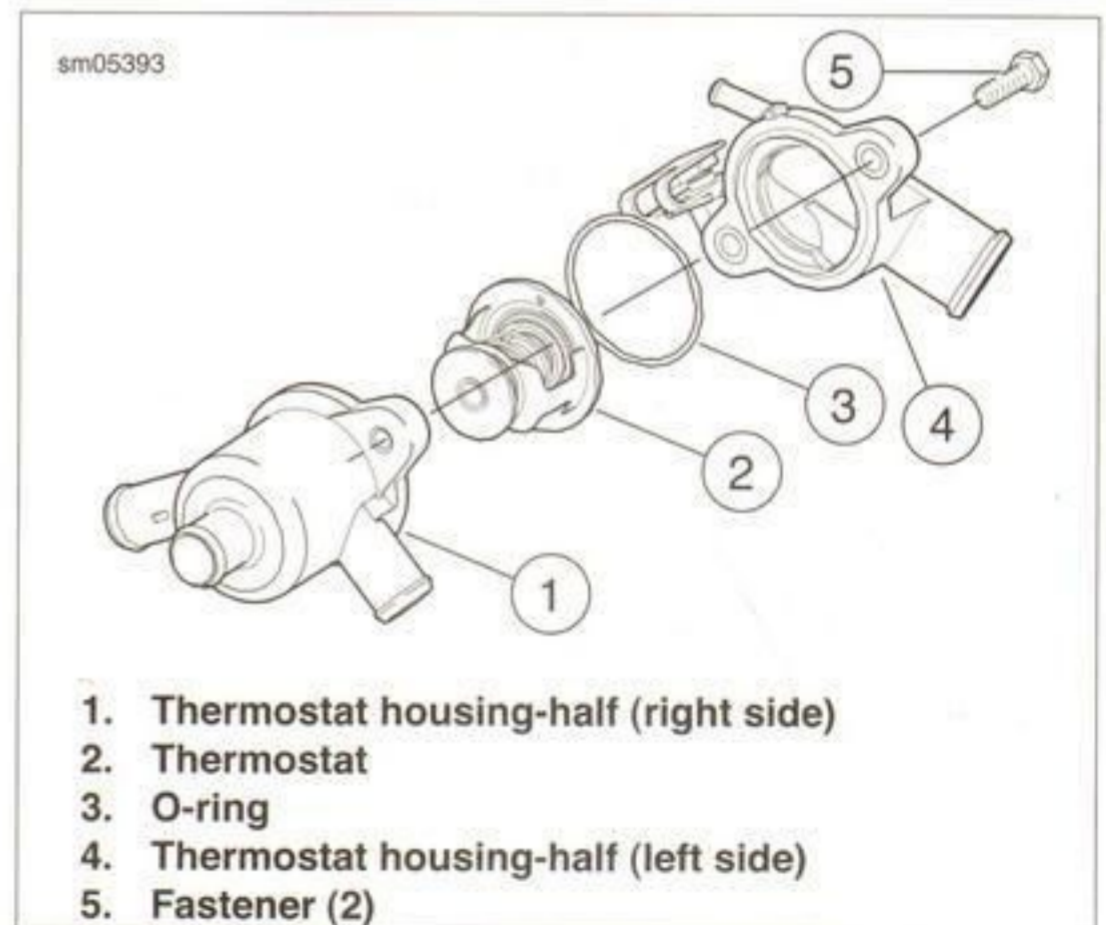

Figure 5-12. Thermostat, Housing, and Components
Check condition of hoses during thermostat service. Replace hoses as necessary. If disassembly of thermostat housing is necessary, see Figure 5-12.
1. See Figure 5-12. If installing **new** O-ring into thermostat housing, use engine coolant to lubricate parts, install O-ring, thermostat, assemble thermostat housing halves, install fasteners (5) and tighten fasteners to 10.2-11.3 Nm (90-100 **in-lbs**). If installing **new** thermostat housing assembly, proceed to next step.